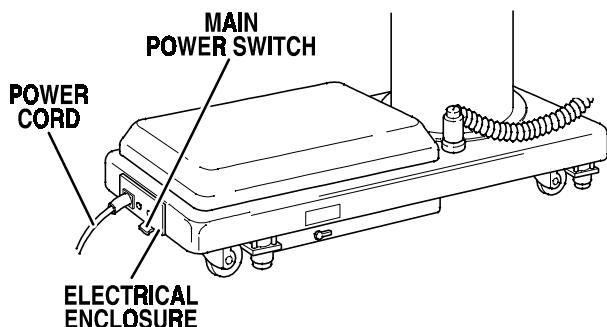

Figure 3-1. Main Power Switch
b. Depress "Main Power ON/OFF" switch on the electrical enclosure. See figure 3-1. The green POWER ON indicator light on the pendant control should now be illuminated.